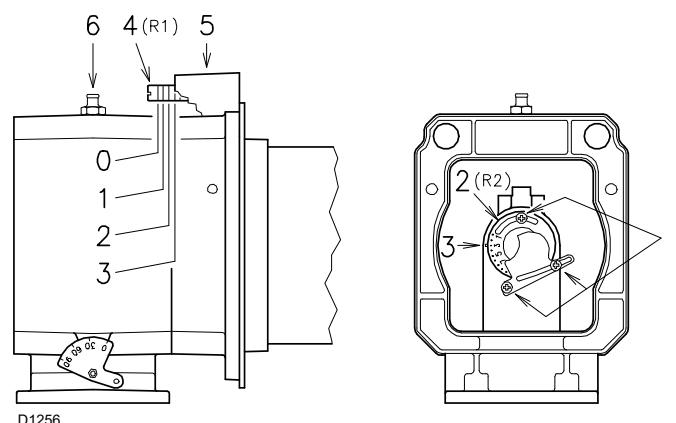

Fig. 17
- Turn the screw 4)(Fig. 17) until the notch found lines up with the front surface 5) of the flange.
To facilitate the adjustment, loosen the screw 6)(Fig. 17), adjust, then block.
- Loosen the 3 screws 1)(Fig. 17) and rotate the ring nut 2) until the notch you have found corresponds with the indicator 3).
If gas pressure allows it, NOx reduction can be obtained by closing ring nut 2)(Fig. 17).